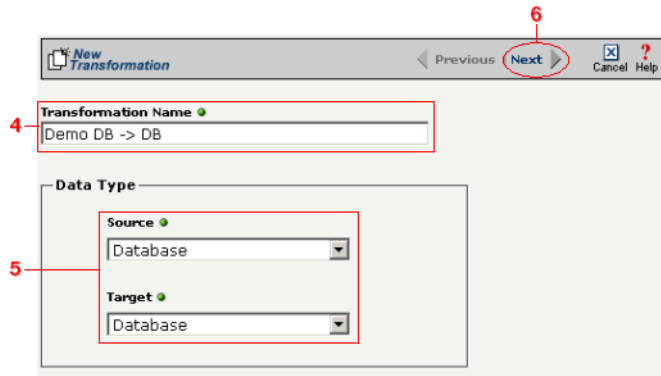

Figure 11-18. Give your new transformation definition an appropriate name, then choose “Database” for your Source and Target.
- ④ Enter an appropriate name for your new transformation in the **Transformation Name** field.
- ⑤ Select “Database” from both the **Source** and **Target** drop-down menus.
- ⑥ Compare your work to Figure 11-18 shown below, then click the **Next** button in the toolbar to continue.